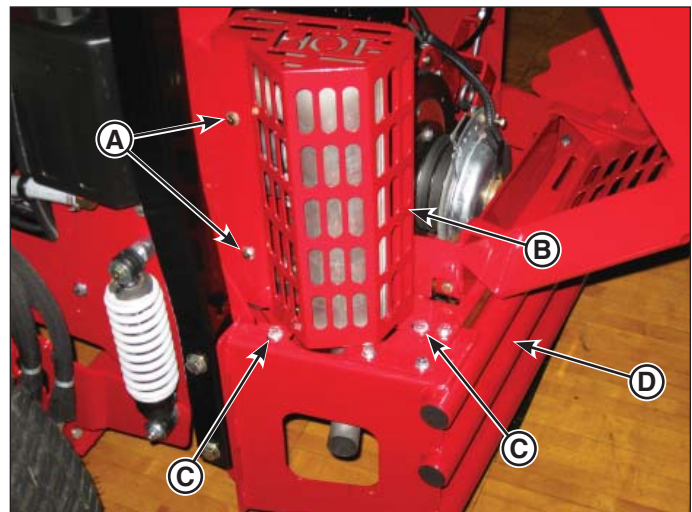

Figure 15. Removing the Muffler Guard
2. Using two (2) 5/16-18 X 3/4 bolts, 5/16 gr. 9 washers and new 5/16-18 nylon flange nuts (C, Figure 15) secure the muffler bracket to the bumper (D).
3. Using two (2) 1/4-20 X 3/4 bolts and 1/4 SAE washers (A) secure the muffler guard (B) to the cowling.
4. Tilt the hood into the closed position and secure with the two (2) rubber straps.